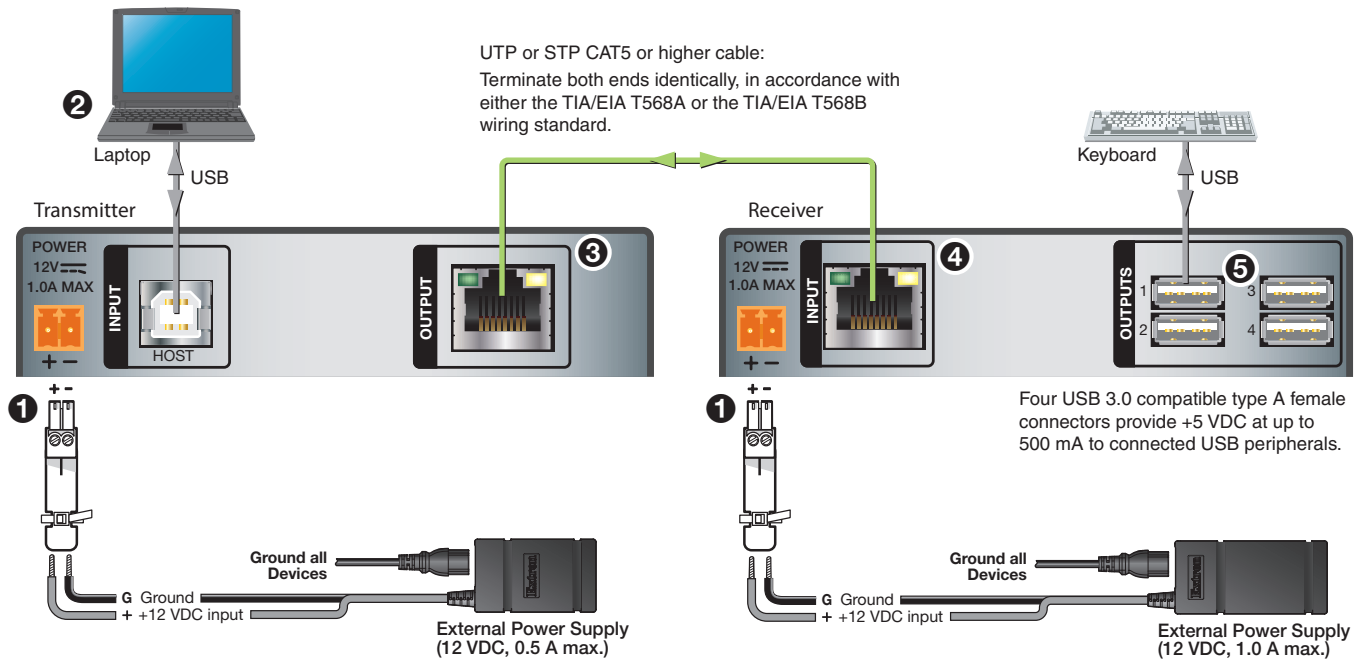

Figure 8. USB Extender Plus T-R Connection with Two External Power Supplies
Figure 8 shows connections for the USB Extenders Plus, rack-mountable models. The connectors are the same for the AAP and decorator-style models except that the USB Hub connectors are on the receiver front panels and are accessible after wall mounting.
To ensure proper operation, the transmitter, receiver, USB host, and USB peripherals must be connected properly and in the sequence described here (see figure 8).
2. Wire the two provided power supplies to the 2-pole captive screw connectors (see figure 8, ①) on the rear panels of the transmitter and of the receiver.
3. Connect a USB Type A-B cable from a USB port of the host computer to the transmitter Host port (see figure 8, 2 on the previous page). Shortly after, the receiver Host LED (shown at right) starts blinking, indicating that communication between the USB and host has been established.